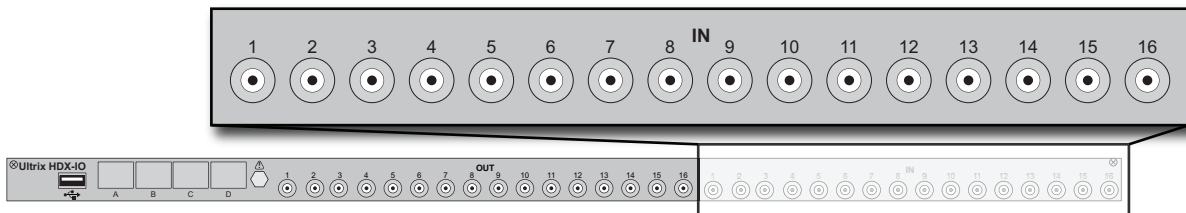

Figure 43 Ultrix Rear Panel — SDI Input BNC Mapping for an ULTRIX-HDX-IO Blade
**Figure 43** outlines the input cabling designations for an ULTRIX-HDX-IO blade. The input BNCs are located on the right side of each blade.